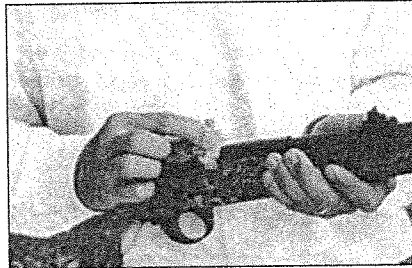

Figure 8
14. WITH GUN POINTED IN SAFE DIRECTION and bolt locked to the rear, place a percussion cap on nipple. THE GUN IS NOW LOADED.(See Figure 8).